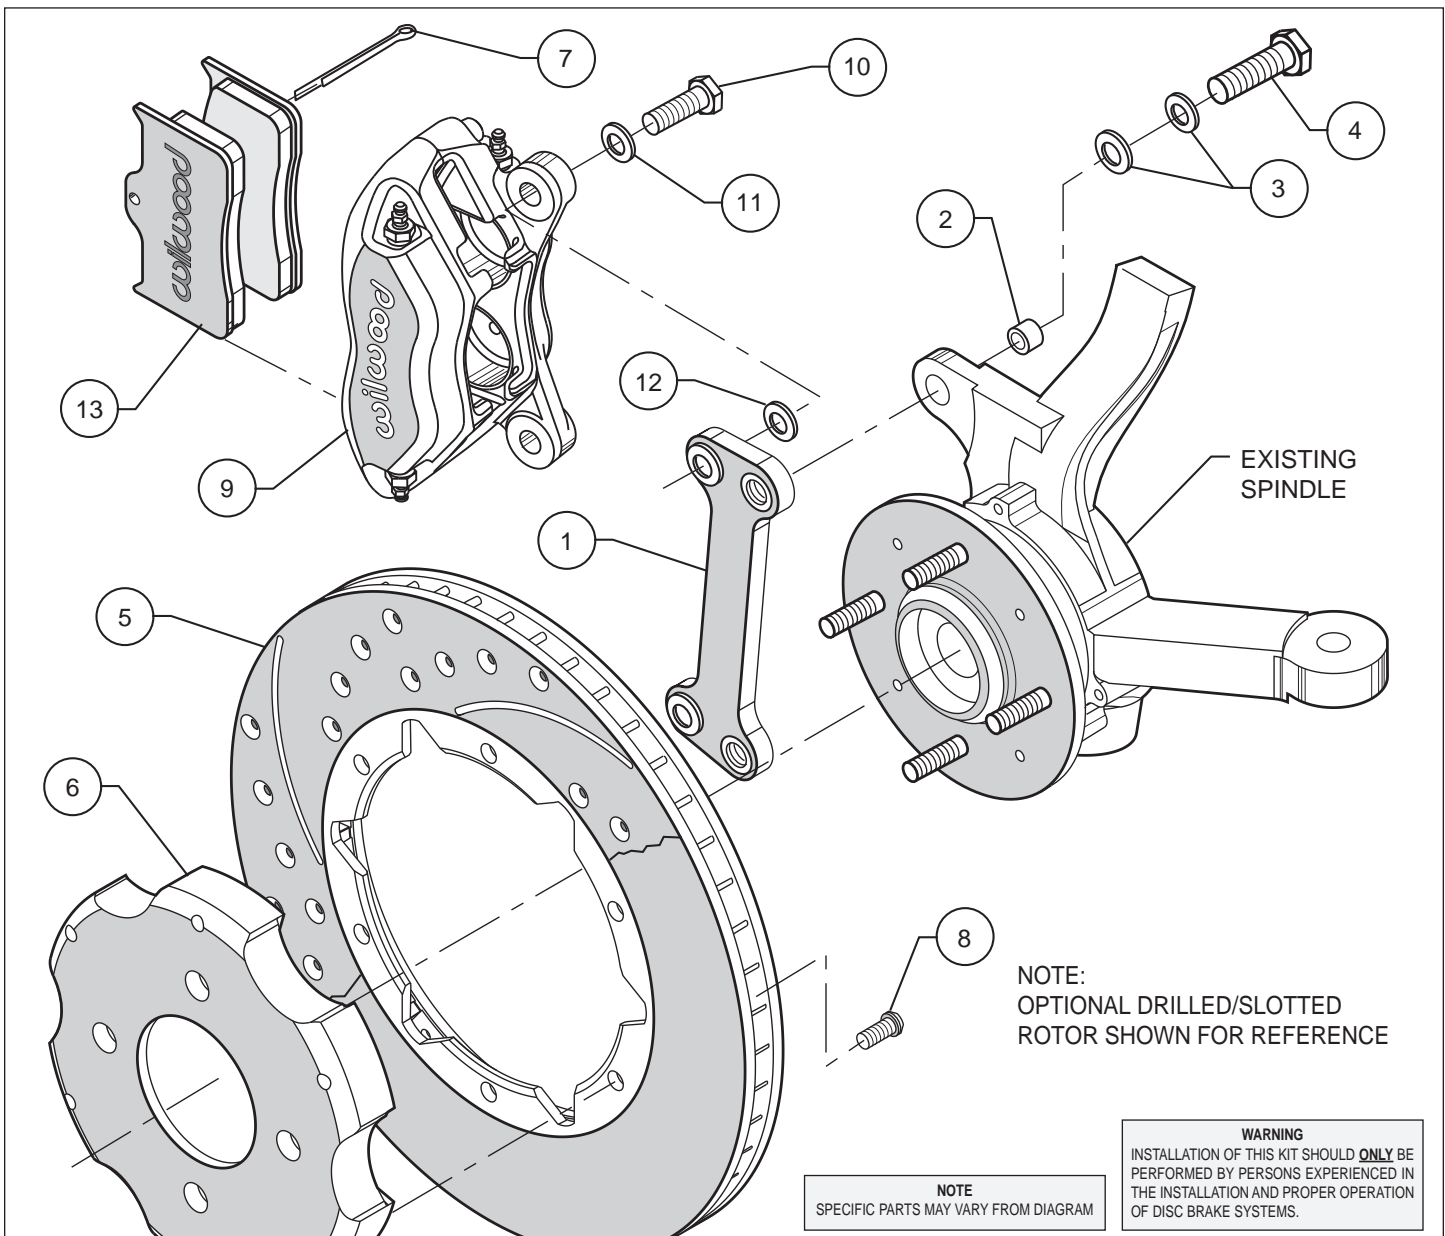
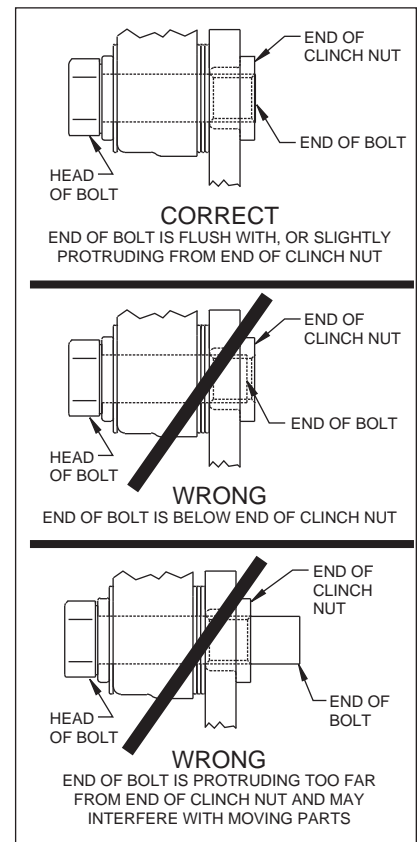

Figure 1. Typical Installation Configuration, Left Hand Application Shown
Figure 4.
- Insert one sleeve (2) each into the holes on the top and bottom of the spindle "ears" where the OEM caliper bracket was removed. Apply red *Loctite*® 271 to the caliper mounting bracket bolt threads (4) before installation of the caliper mounting bracket (1). Install the caliper mounting bracket (1) with the threaded inserts and the beveled bolt holes facing the outside of the vehicle. Slide bolt (4) through two flat washers (3) into the previously installed insert (2) from the backside of the spindle. Finger tighten. Repeat for the lower mounting holes. Torque bolts to 40 ft-lb. **NOTE:** Be sure the heads of the caliper bracket (1) insert nuts are facing outward toward the wheel.
- Attach the hat (6) to the rotor (5) using bolts (8) as shown in Figure 1. Using an alternating sequence, remove bolts one at a time, apply red *Loctite*® 271 to the threads, and torque to 25 ft-lb.
- NOTE:** Please reference the caution statement at the beginning of the assembly instructions. Mount the caliper (9) onto the caliper mounting bracket (1) using bolts (10) and washers (11) as shown in Figure 1. Temporarily tighten mounting bolts and view the rotor (5) through the top opening of the caliper. The rotor should be centered in the caliper. If not, adjust by adding or subtracting 0.035 inch thick shims (12) between the caliper and the bracket. Always use the same amount of shims on each of the mounting bolts. **NOTE:** The end of each bolt must be flush with or slightly protruding from the head of the clinch nut. If necessary place spare shims between washer and caliper mounting ear to achieve the proper clinch nut engagement, as shown in Figure 4. Once the caliper alignment and clinch nut engagement are correct, remove bolts one at a time, apply red *Loctite*® 271 to the threads and torque to 40 ft-lb.
- Install the disc brake pads (13) and secure using cotter pin (7). Repeat this procedure for the other wheel.